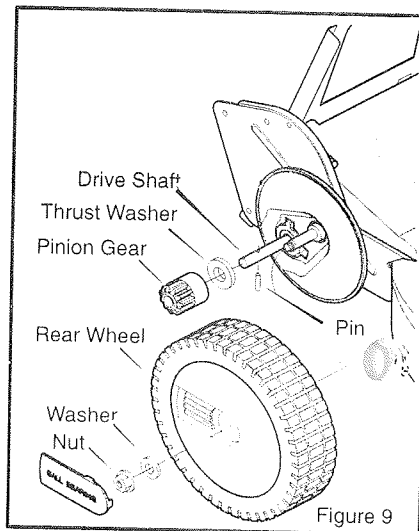

Figure 9
- Remove the rear wheel and the pinion gear (Figure 9).